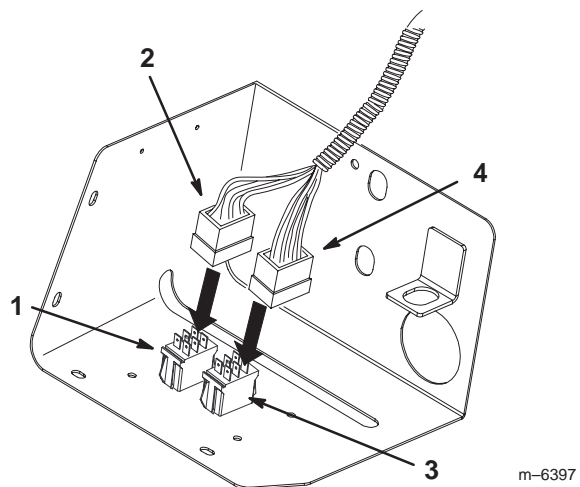

Figure 26
13. Connect the connector with mostly green and yellow wires to the spray selection switch (toggle style switch) (Fig. 26).
14. Connect the connector with the multi-colored wires to the rate control switch (momentary switch) (Fig. 26).